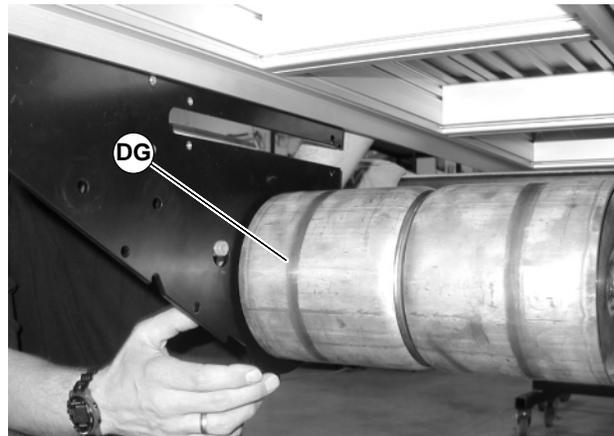

Figure 101
11. Slide drive pulley (DG of Figure 101) out of attached side plate.